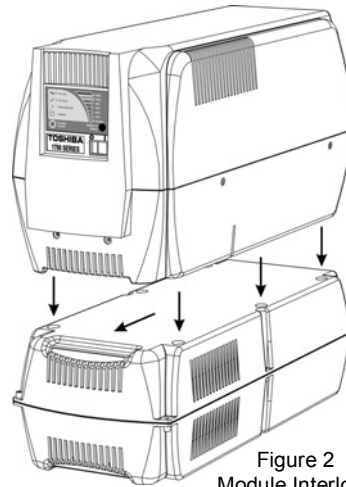
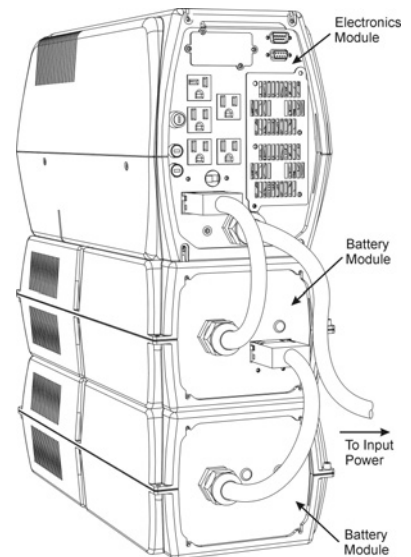

Figure 2
Figure 4
Step 2: Slide the upper unit forward. This will cause the two units to lock together. In order to unlock the units, lift up on the top module, and slide it back. This will release the interlock (figure 2).
Figures 2 and 3 show the proper assembly of the battery module and the electronics module. If additional battery modules are being installed with the standard unit see figure 4.
Figure 4 shows the standard unit with an additional battery module added. To install an additional battery module follow these steps: